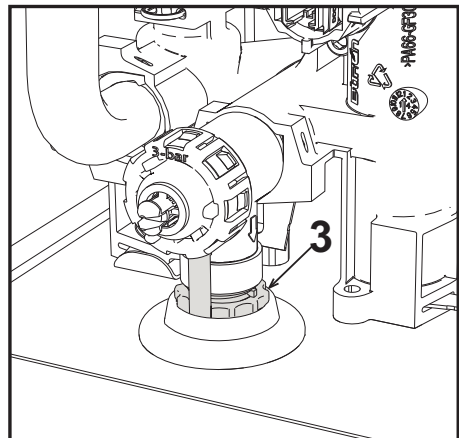

fig. 17
To drain the system, turn the ring nut (ref. 3 - fig. 17) counter-clockwise to open the cock. Do not use any tools; use hands only.